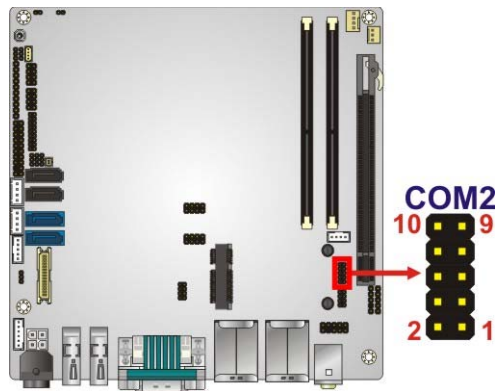

Figure 3-17: RS-232 Serial Port Connector Location
- CN Location:** See **Figure 3-17**